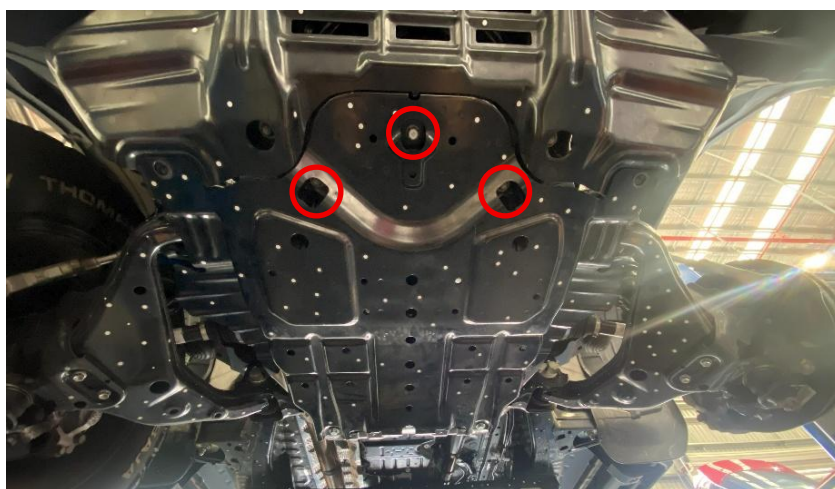

Figure 5
12. For the front bash plate, use the three M10x3.5mm spacers supplied in the kit together with the OE hardware. Refer to Figure 5